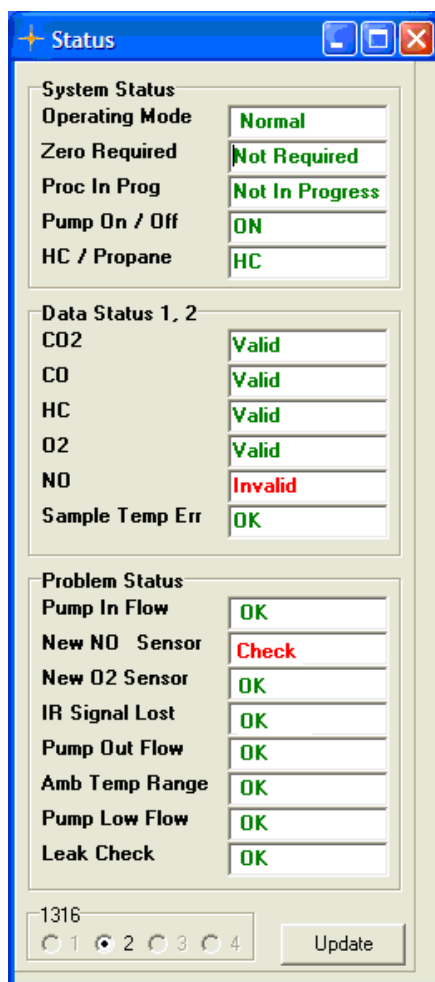

Figure 4.13 The Status window displaying that a new NO sensor is required
- 1) If a New NO Sensor is required see the Status window figure 4.13, install a new NO sensor Order number VM0201A.
If the NO channel is being span calibrated, the current full-scale NO output is calculated and saved. If the current full-scale NO output is less than or equal to a preset value (The Low NO Sensor Limit) the New NO Sensor Required is shown in the Status window, see figure 4.13.